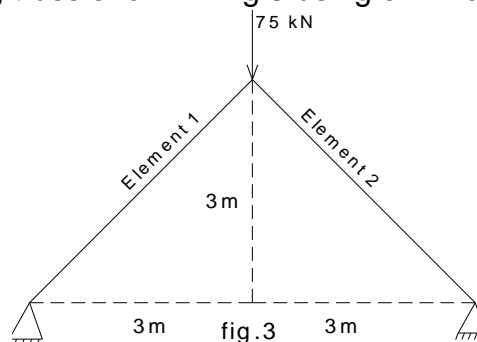

fig.3
- (b) Analyze the following truss shown in fig.3 using elimination Approach.